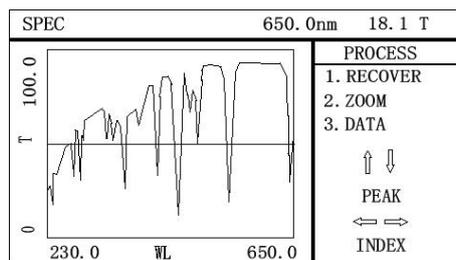

Fig. 4-16b
After scan, press GOTO λ to enter data process (Fig. 4-16b). Press numeric key 1, recover original spectrum; Press numeric key 2 ABC to change X,Y coordinate. Press numeric key 3 DEF to enter data sheet.